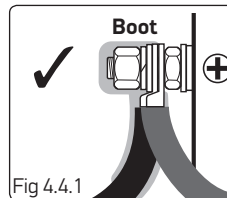
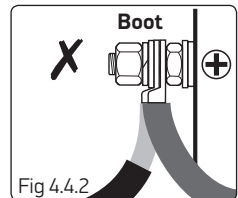
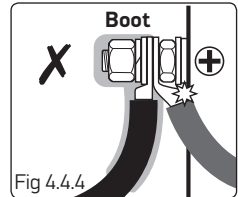

Fig 4.4.1
Fig 4.4.2
Fig 4.4.4
- ▶ Correct installation. Supplied cable boots are used and no bare wires exposed (Fig 4.4.1).
- ▶ Live wire exposed! (Fig. 4.4.2). Correct the cable installation to match (Fig 4.4.1).
- ▶ Crimp inverter lead is touching motor! (Fig 4.4.4). Correct the cable installation to match as (Fig 4.4.1).